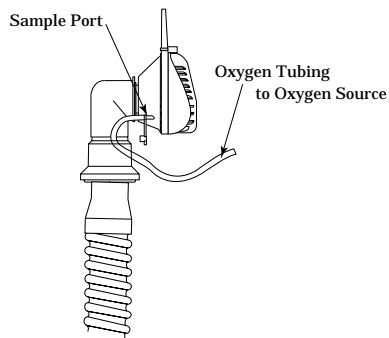

Figure 21a
- Attach the oxygen tubing to one of the sample ports on or near the patient's interface, as indicated in Figure 21a.